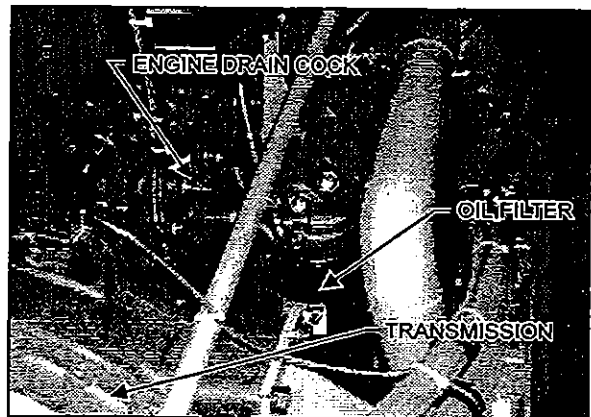

Figure 7: Right Rear Corner of Engine
3. Open the drain cock located at the right rear corner of the engine (Fig. 7).